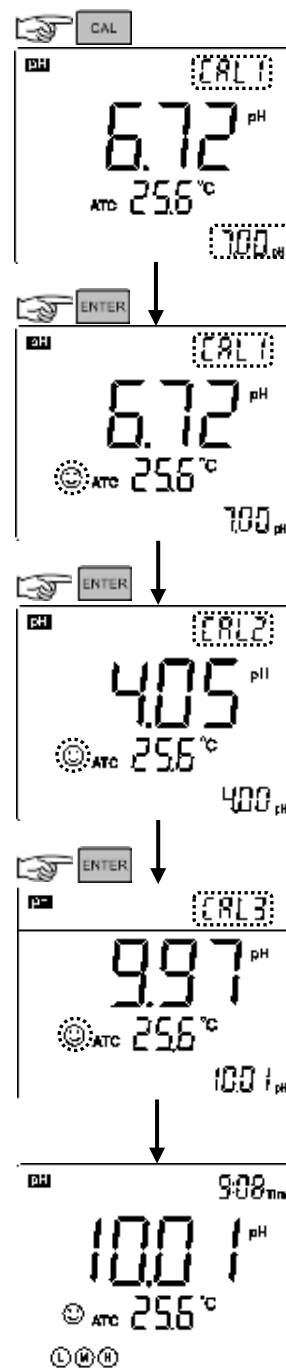

Figure-9
When the meter recognizes 10.01 pH, ☺ displays and stays on LCD. Press **ENTER** key to calibrate the meter. End icon and electrode slope of alkalinity range display after calibration is done. The meter returns to the measurement mode, displays stable measuring value and calibration guide icons **(L) (M) (H)** . Please see Figure-9 for the above calibration process.